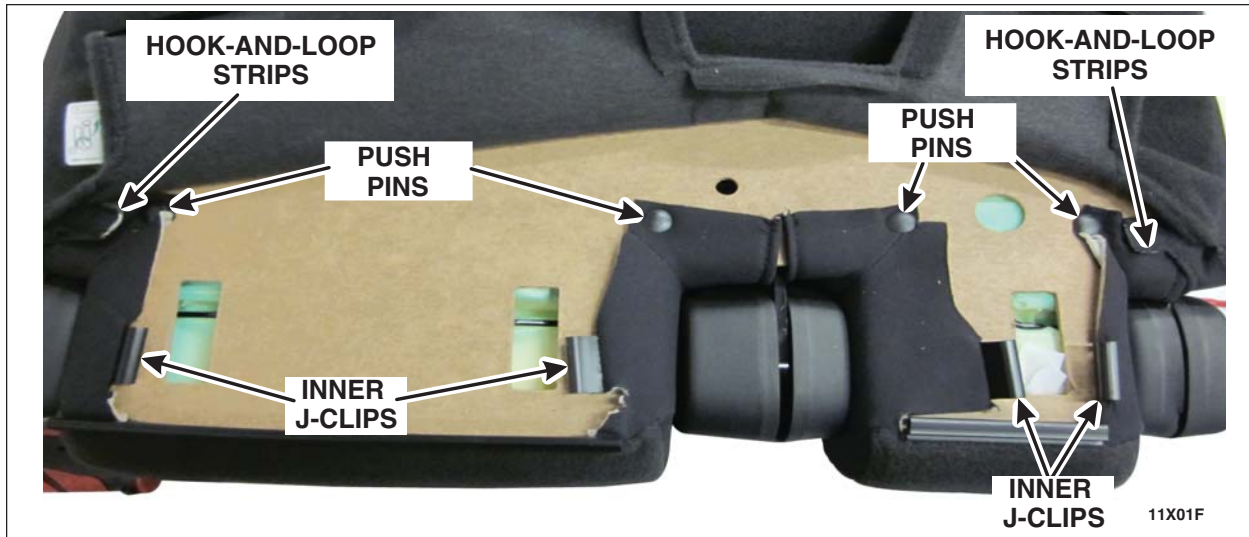

FIGURE 6
14. Release the seat backrest cover inner J-clips and push pins. See Figure 6.
15. Release the seat backrest cover hook-and-loop strips. See Figure 6.
55. Attach the seat backrest cover inner J-clips and push pins. See Figure 6.
56. Attach the seat backrest cover hook-and-loop strips. See Figure 6.